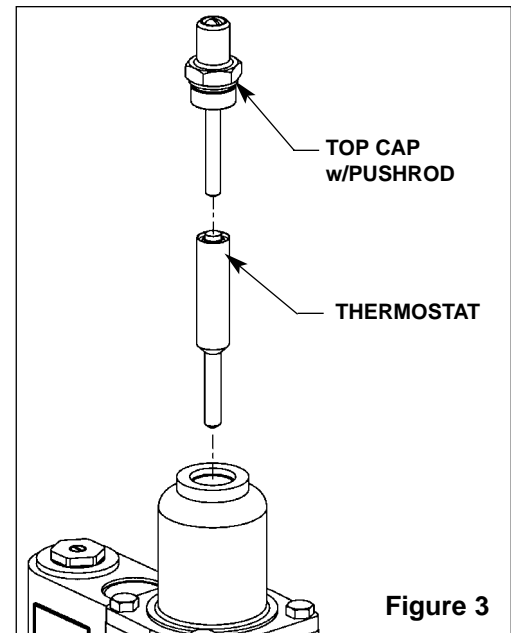

Figure 3
1. Remove the valve's top cap and pull out the push rod and then the thermostat (see Figure 3). You may use a needlenose pliers to remove the thermostat from the valve body if desired.
1. Remove the top cap and pull out the push rod and thermostat (see Figure 3 on page 5).